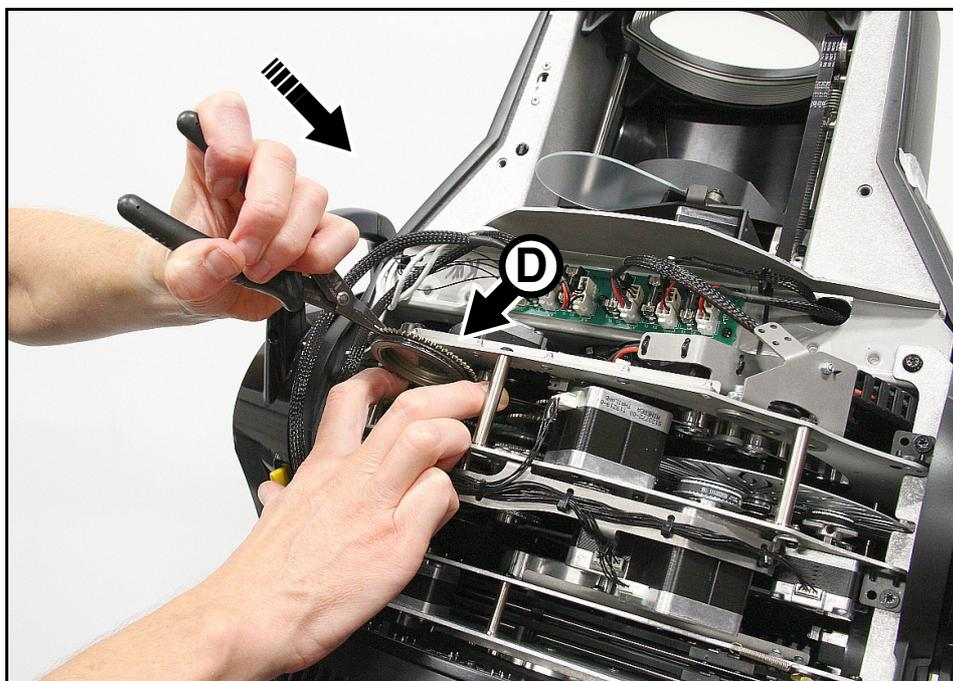

Figure 17: Reinstalling a goboholder
6. See Figure 17. Line up your reference point on the goboholder with your reference point in the effects module. Using two fingers as shown at **D**, bend the thin metal plate on the gobo wheel away from the wheel very slightly so that you have room to slide the goboholder back into the clip in the gobo wheel. Holding the goboholder teeth with flat-nosed pliers, slide the goboholder back into its clip.